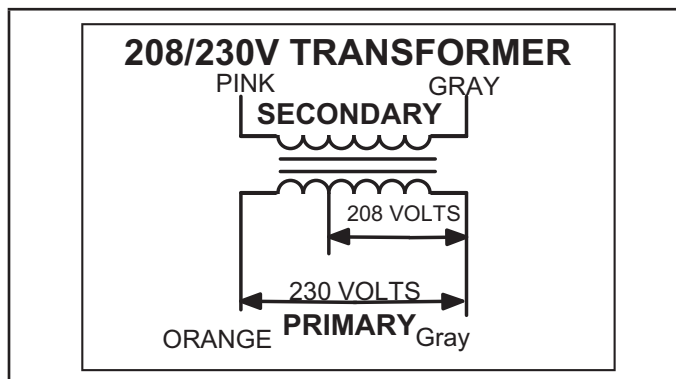

FIGURE 3
All KHB series units use a single line voltage to 24VAC transformer mounted in the control box. Transformer supplies power to control circuits in the unit. The transformer is rated at 70VA and is protected by a 3.5 amp circuit breaker (CB8). The 208/230 (P, Y) voltage transformers use two primary voltage taps as shown in FIGURE 3, while 460 (G) and 575 (J) voltage transformers use a single primary voltage tap.